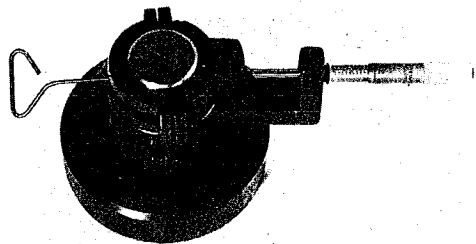

Fig 5 Cutter Holder on Micrometer Assy.
1. On the Micrometer Assembly, install the cutter holder onto the ground chromed shaft aligning the hole for the cutter with the corresponding hole in the chromed shaft (scribed lines on the shaft and cutter holder will easily identify hole locations). Be sure to keep the gap at both ends of the cutter holder identical when tightening the cutter holder onto the shaft. (See Fig 5)